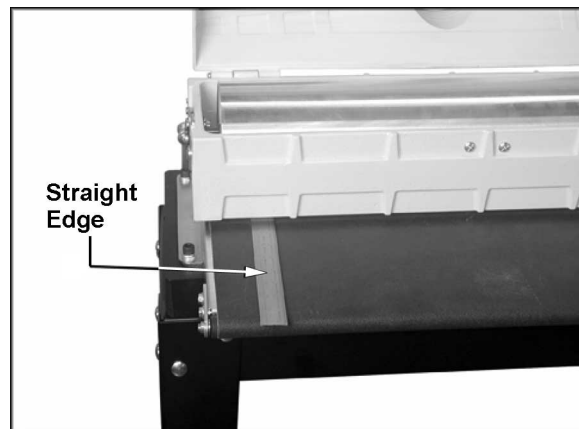

Figure 21
3. Insert the gauge between the drum and conveyor bed at the outer end of the drum (Figure 21). With the dust cover open, lower sanding drum while slowly rotating drum by hand until the drum lightly contacts the thickness gauge.